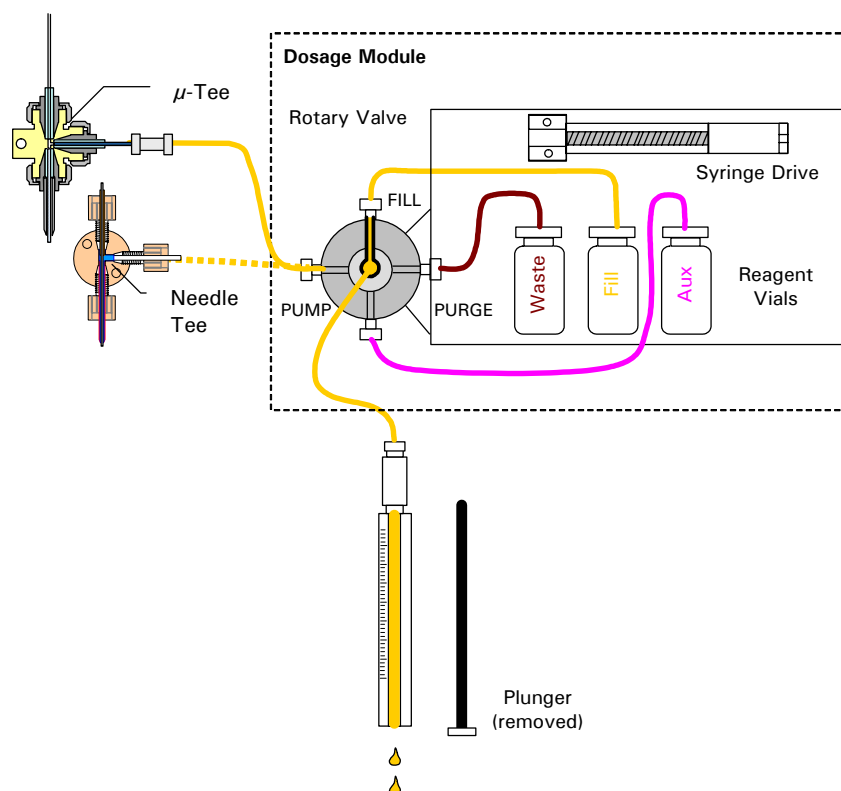

FIGURE A-5 Step 4 – Drain the Syringe
- e) Remove the plunger from the syringe. Lower the syringe and allow the contents to drain via gravity, then replace the plunger (FIGURE A-5).